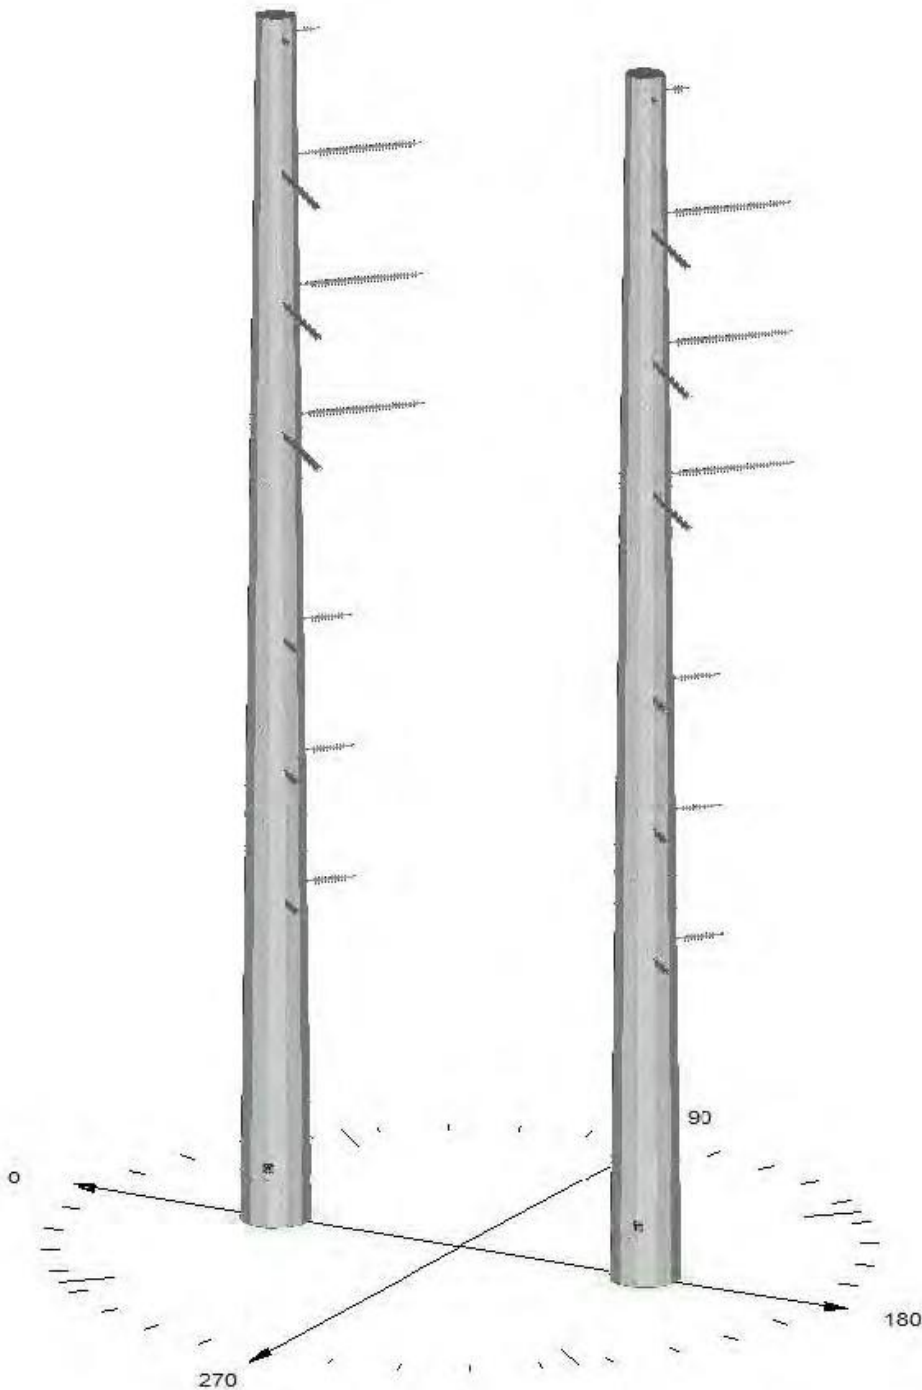

FIGURE G-21
- Figure G-21: Double-Circuit 230 kV Tubular Steel Structure (Pole) with 69 kV Underbuild, Transition Structure